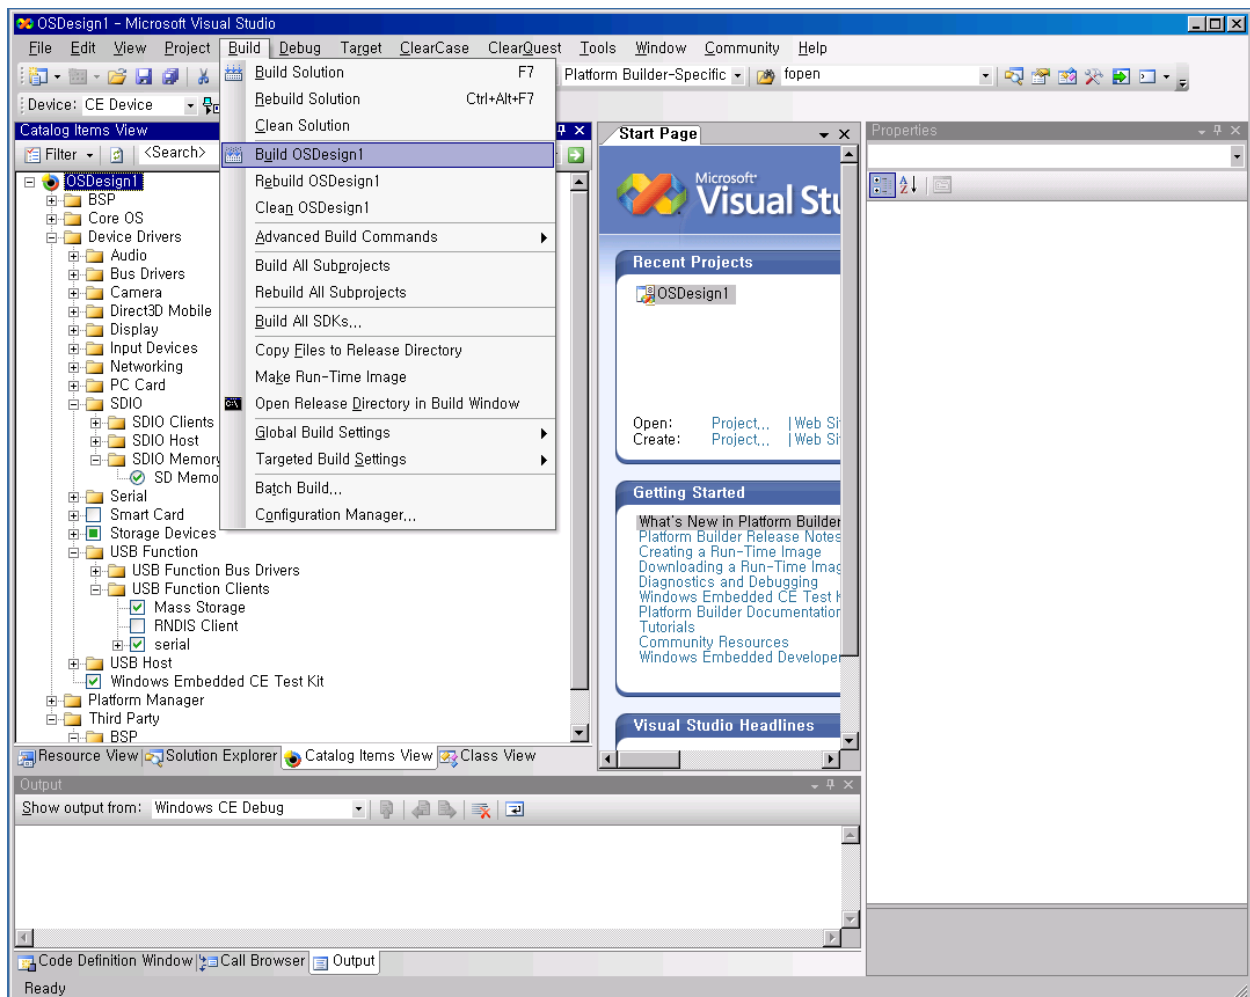

Figure 7-3 Build OSDesign
3. On the **Build** menu, click **Build OSDesign1** as shown in figure 7-3 to build the Eboot and OS image.